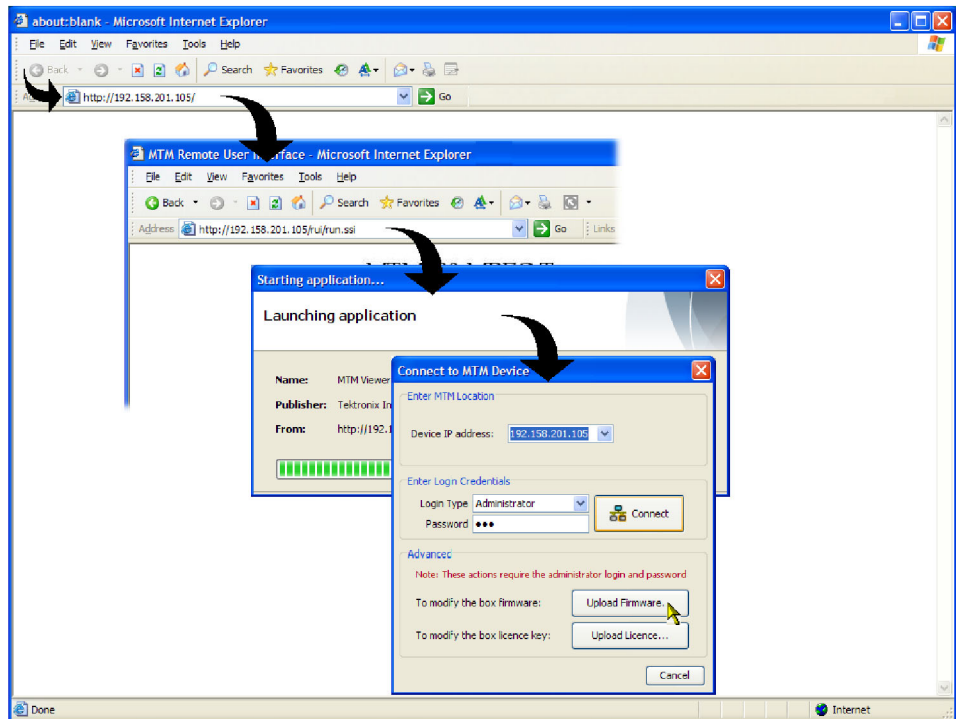

Figure 3: Connecting to the instrument
2. In the Web browser address bar, enter the IP address or network name of the MTM400 or MTM400A monitor. (See Figure 3.) For example: